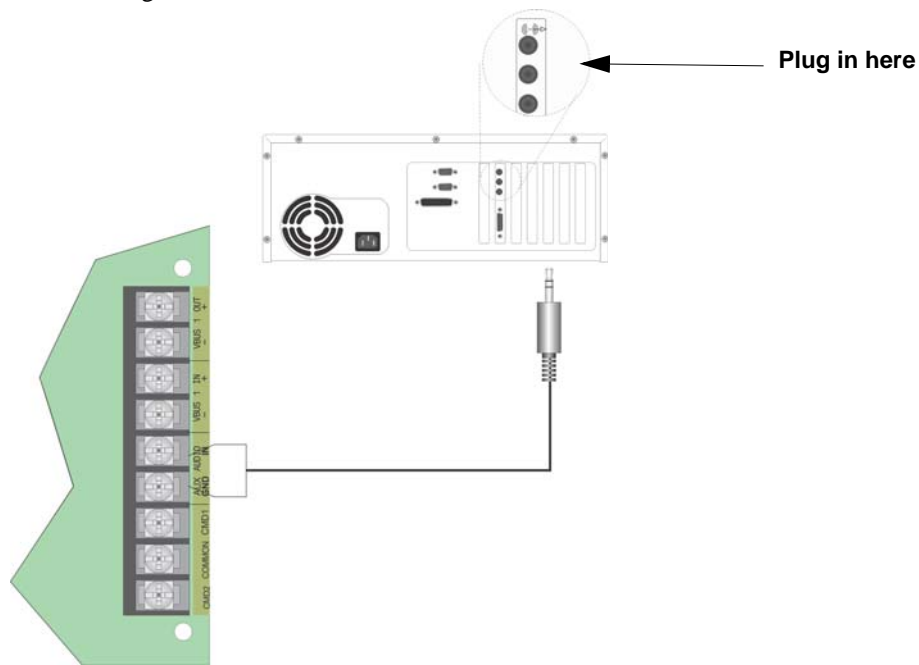

Figure 9-7 AUX Audio Connection for Recording
1. Wire a speaker cable with 1/8" mini plug (Radio Shack Cat. No. 42-2454) to Aux AUDIO GND and IN terminals. Refer to Figure 9-7.
2. Plug the mini plug into the Line Out/Headphone jack on a PC or Laptop. See Figure 9-7.